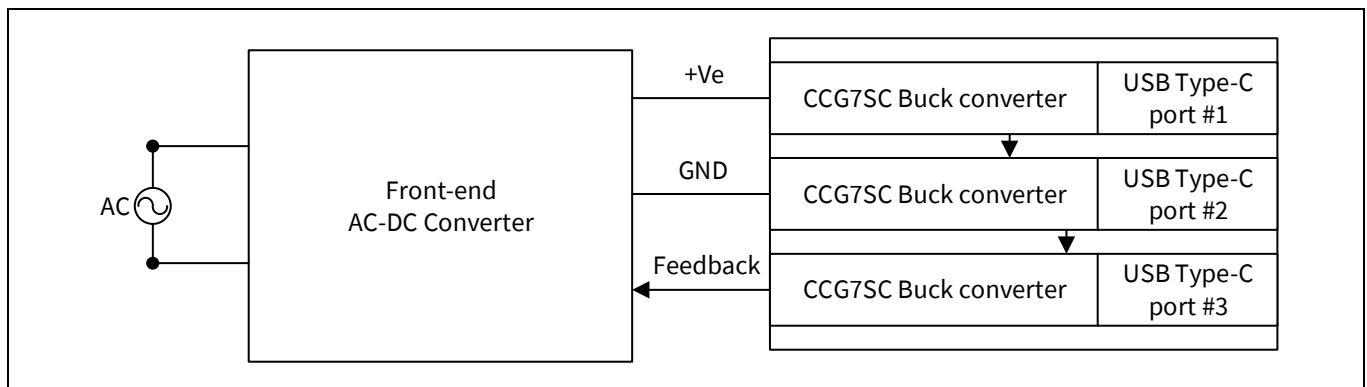
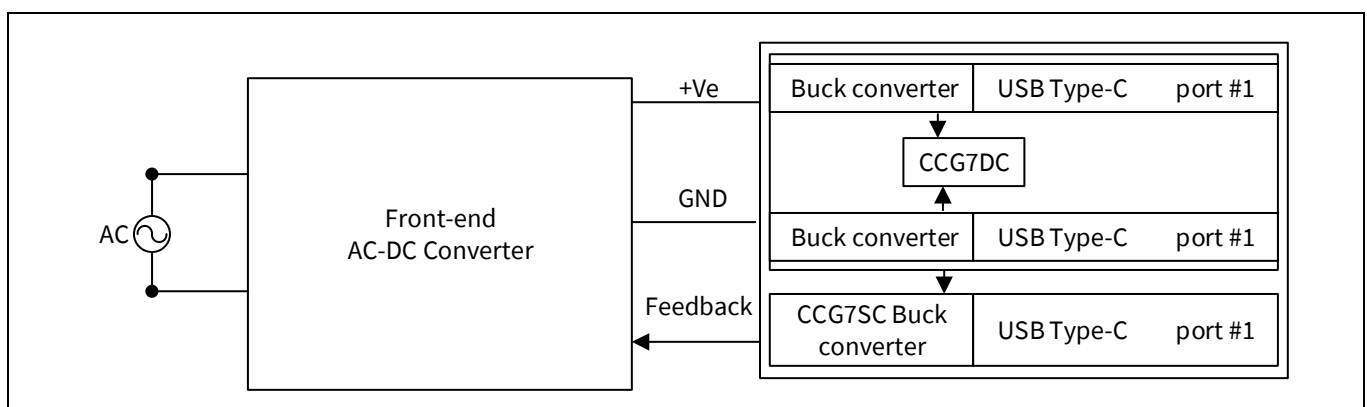

Figure 12 CCG7SC-based 3 port charger and adapter solution
Figure 13 CCG7DC+CCG7SC-based 3 port charger and adapter solution
The USB-PD multi (3)-port charger and adapter solution for AC-DC power application can be achieved with a combination of one **CCG7DC** and one CCG7SC controller, or with three individual CCG7SC controllers. **Figure 12** illustrates USB-PD multi (3)-port charger and adapter solution for AC-DC power application block diagram using EZ-PD™ CCG7DC and CCG7SC. Here CCG7DC will be supporting to provide required voltage current for two ports and CCG7SC will be supporting to provide required voltage current for third (single) port. **Figure 13** illustrates USB-PD multi (3)-port charger and adapter solution for AC-DC power application block diagram using EZ-PD™ CCG7SC. Here three CCG7SC controllers will support to provide required voltage current for three ports.